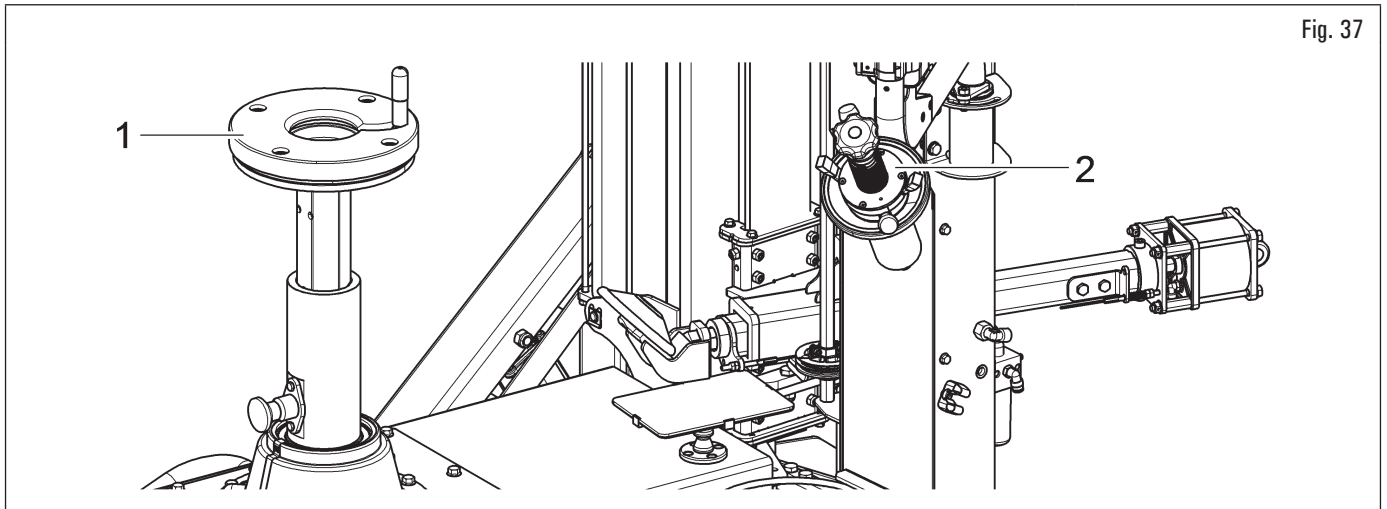

Fig. 37
All wheels must be locked on the rubber plate (Fig. 37 ref. 1) through the central hole using the proper locking device (Fig. 37 ref. 2).